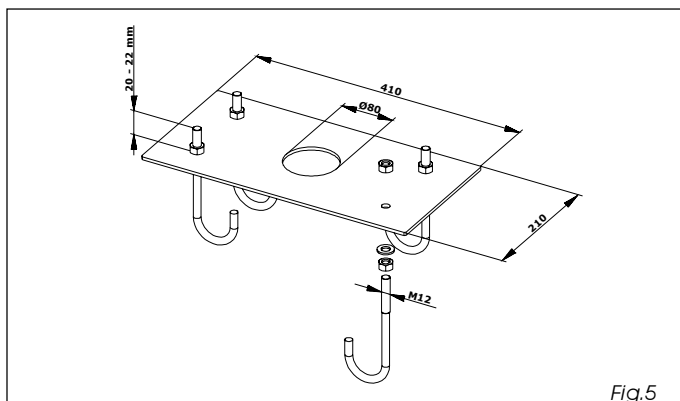

Fig.5
- assemble the foundation plate as shown in figure 5.